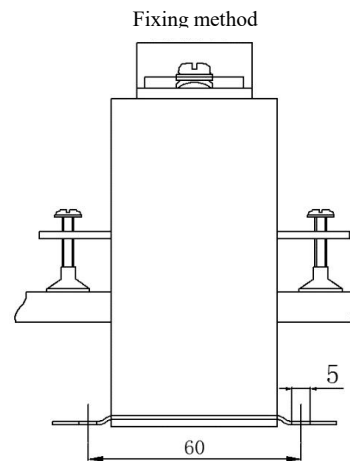

Fig 3
- When fixing to the bottom plate: take two feet ( supplied with the product ) and insert them into the foot sockets on the bottom plate as shown in Figure 3. The center distance of the mounting holes is  $60 \times 32$  ; the mounting hole diameter of the feet is  $\Phi 5.0$ ; the transformer can be fixed on the bottom plate with M5 screws.
- When fixing on the busbar: take a foot with M5 holes ( supplied with the product ) and insert it into the busbar foot slot as shown in Figure 3. The center distance of the M5 holes is  $59$  , and the transformer can be fixed on the busbar with M5 screws .